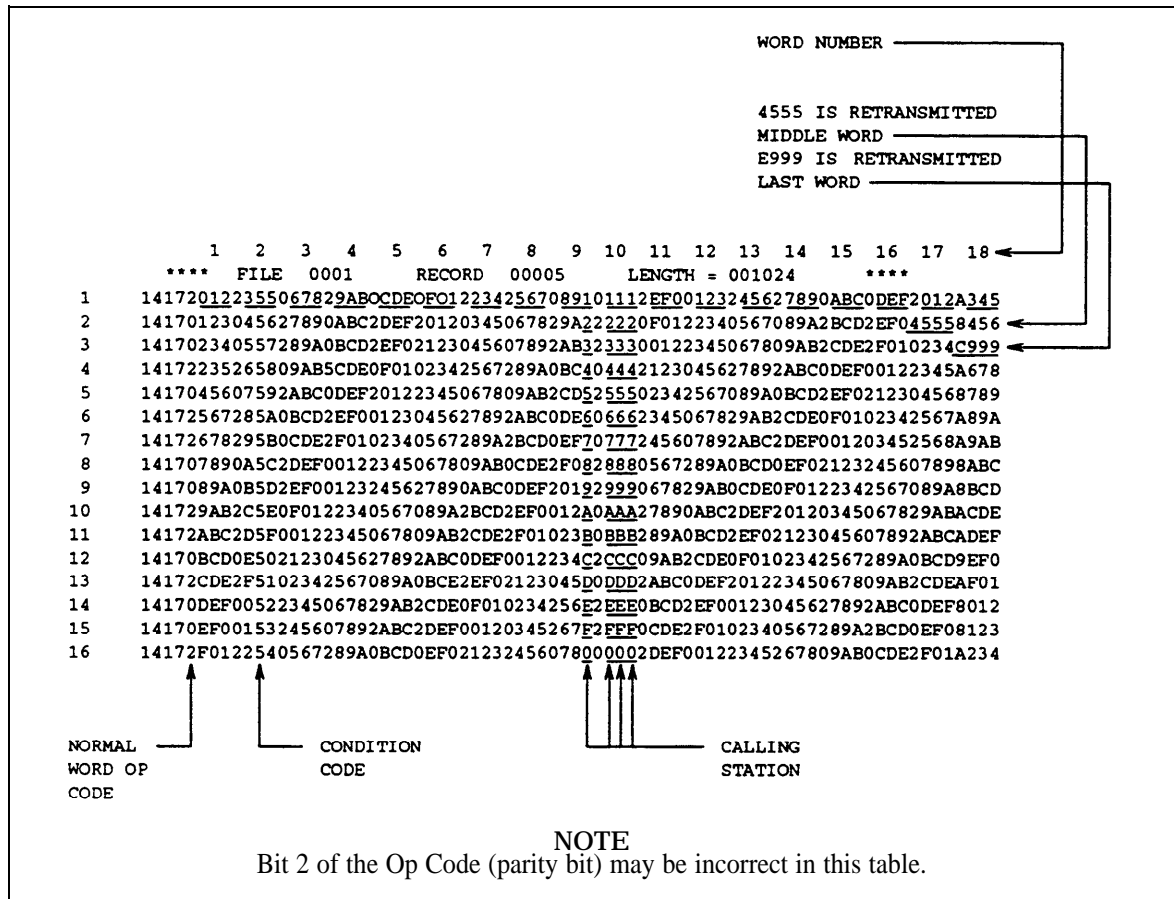

Figure 6-12. Hexadecimal Dump for a Test 3 Call with 18-Word Format
3. Check the output (see Figure 6-12) to ensure that the NCOSS equipment is operating properly.